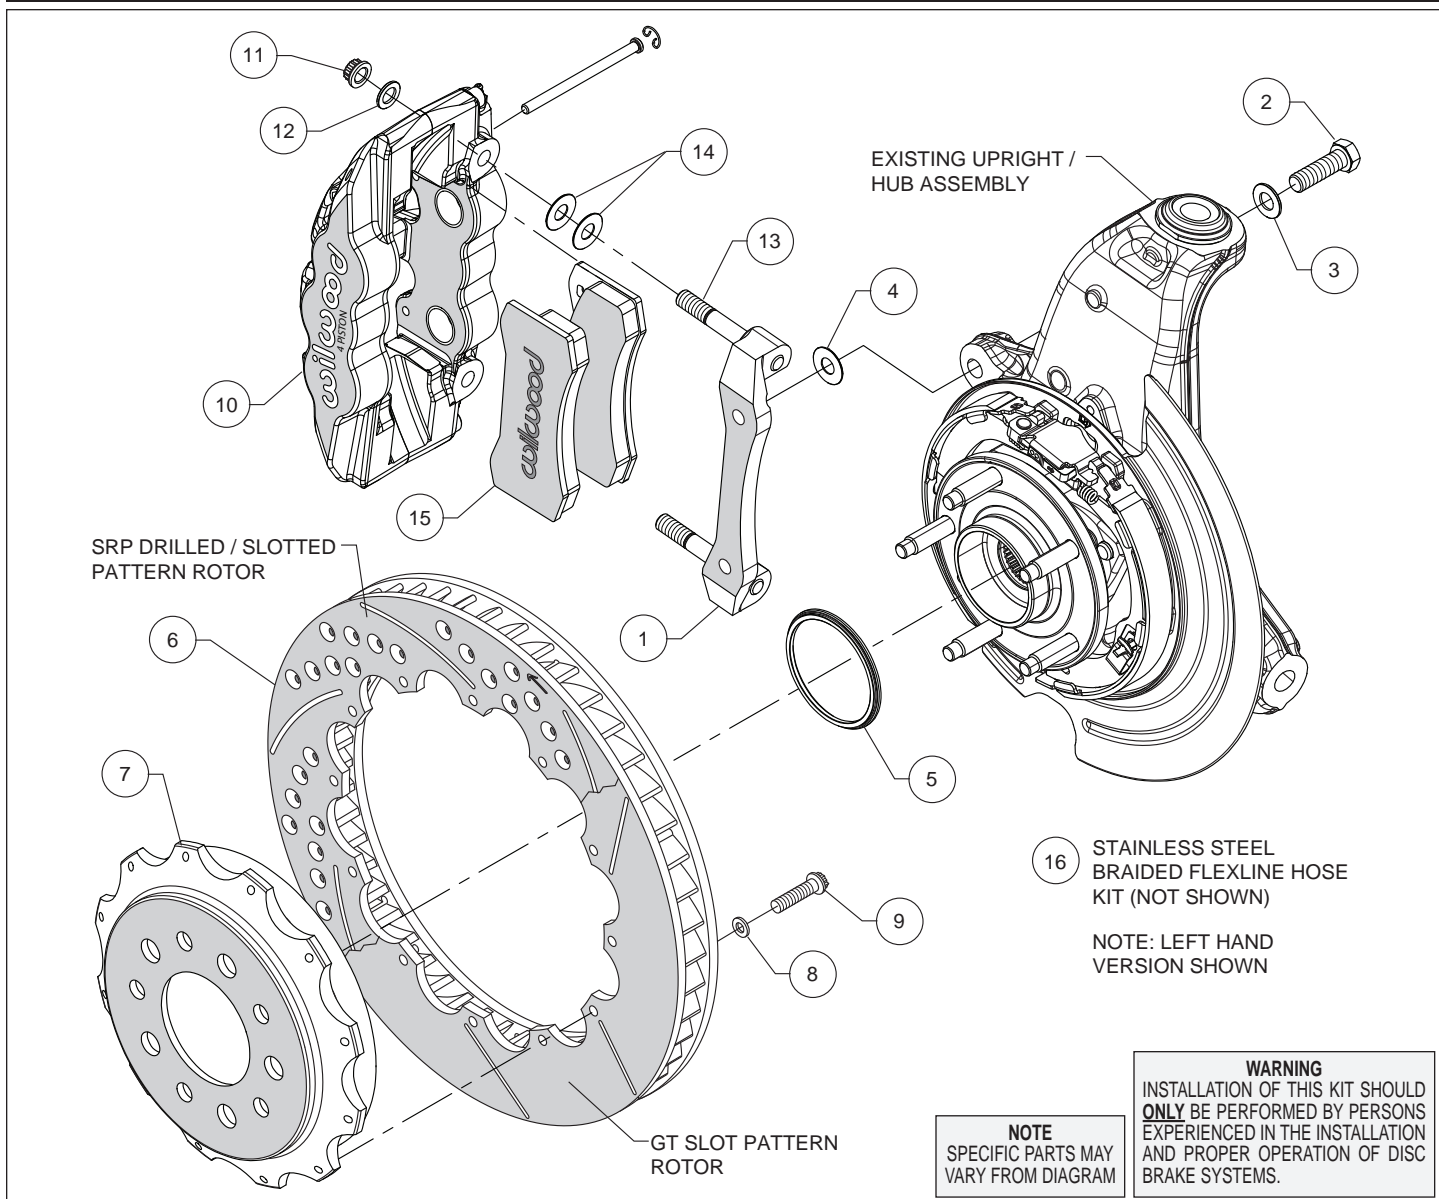
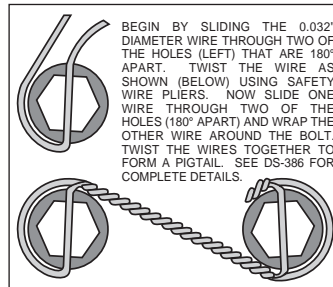

Figure 1. Typical Installation Configuration
Figure 3. Safety Wire Diagram
Assembly Instructions (numbers in parenthesis refer to the parts list and Figure 1 on the preceding pages):
- The caliper mount bracket (1) should initially be installed with clean, dry threads on the mounting bolts. Orient the bracket as shown in Figure 1, and Photo 1, and install using bolts (2) and washers (3). Initially place one .033" thick shim (4) on each bolt between the bracket and upright, Figure 1. Temporarily tighten the mounting bolts. **NOTE:** *The bracket must fit squarely against the mount bosses on the upright.* Inspect for interference from casting irregularities, machining ridges, burrs, etc. Later, after the caliper alignment has been checked, the mount bolts will be secured using red *Loctite*[®] 271.
- Orient the rotor (6) and the hat (7) as shown in Figure 1 and Photo 2. Attach rotor to hat using bolts (9) and washers (8). Using an alternating sequence, apply red *Loctite*[®] 271 to the threads, and torque to 140 **in-lbs**. For an added measure of security, the bolts may be safety wired using standard 0.032 inch diameter stainless steel safety wire as shown in Figure 3. Please refer to Wilwood's data sheet DS-386 (available at www.wilwood.com/Pdf/DataSheets/ds386.pdf) for complete safety wire installation instructions.
- NOTE:** *This kit contains distinct right and left hand calipers. The calipers must be mounted with the bleed screws pointing upward.* Lubricate the caliper mounting studs (13) with lightweight oil. Initially place two .030" thick shims (14) on each stud as shown in Figure 1 and Photo 5. Mount the caliper (10) onto the bracket (1) using lock nuts (11) and washers (12), Figure 1. Temporarily tighten the lock nuts and view the rotor through the top opening of the caliper. The rotor should be centered in the caliper, Photo 6. If not, adjust by adding or subtracting shims (4) between the bracket and the upright. Always use the same amount of shims on each of the two mounting bolts. Once the caliper alignment is correct, remove the bracket mounting bolts (2) one at a time, apply red *Loctite*[®] 271 to the threads, and torque to 60 ft-lb.
- Remove the two pad retaining pins from the caliper (10) by carefully popping out the pin retaining clips and sliding out the pins. Insert the brake pads (15) into the caliper from the bottom, Figure 1 and Photo 7. With the friction material facing the rotor, secure the brake pads in place with the pad retaining pins and clips, Photo 8. Reinstall the caliper onto the caliper mounting bracket and temporarily tighten the lock nuts. Check that the top